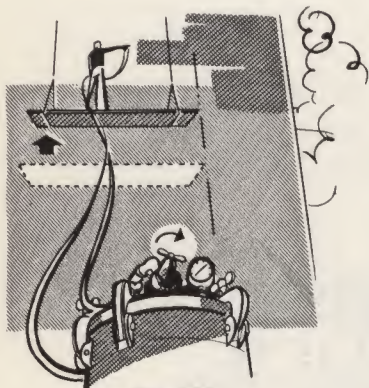

Fig. 100
- (o) If faster or slower application is required, readjust the fluid flow up or down as the case may be and again balance the atomization air to produce the desired degree of atomization. When operating the gun at higher levels, air pressure should be readjusted at the rate of an additional $\frac{1}{2}$ to 1 pound or more, depending on the weight of the spray material, for each added foot of elevation. (Fig. 100)